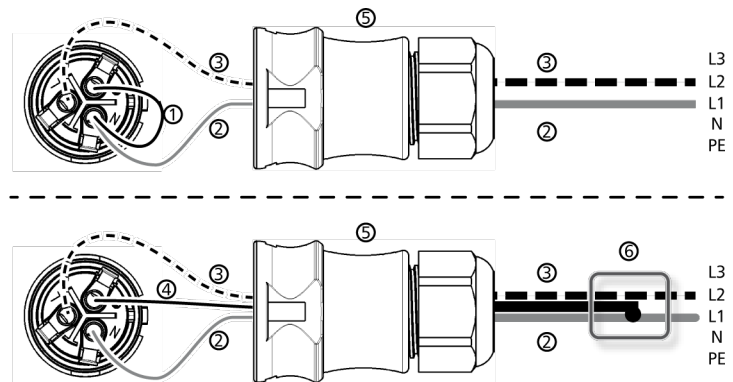

Fig. 8: Connection of N and PE in the AC plug (above) or junction box (below)
- N and L are connected between the L1 – L2 external conductors at the inverter side. See ② and ③ in Fig. 8.
Fig. 8 shows an example of an inverter-side connection between L1 and PE:
2. ➤ Connect one of the two connected phases to PE at the inverter side. Make this connection inside the AC plug or use an external junction box, as shown in Fig. 8.